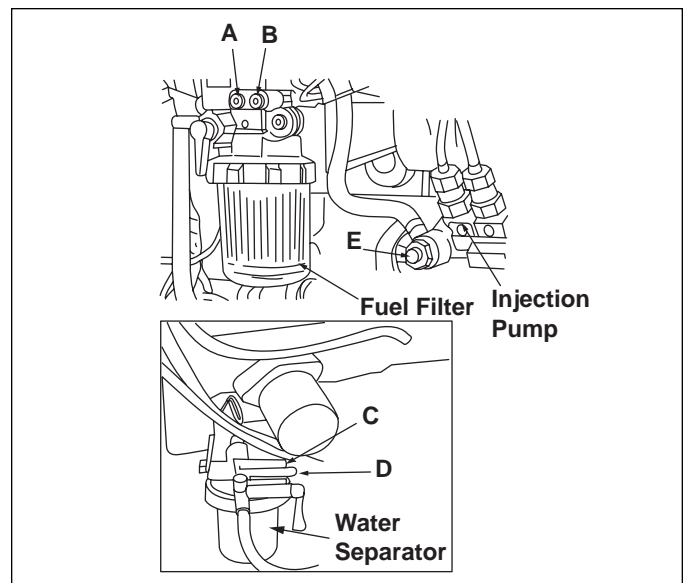

Figure 4-8. Bleeding Air from Fuel System
2. While operating the priming lever on the fuel injector pump, loosen the air bleeding screw (A, Figure 4-8) on the fuel filter. When fuel starts flowing from the bleeder valve (A) without any air, tighten the bleeder screw (A).
3. Repeat step 2 for bleeder screws B, C, D and E (Figure 4-8).